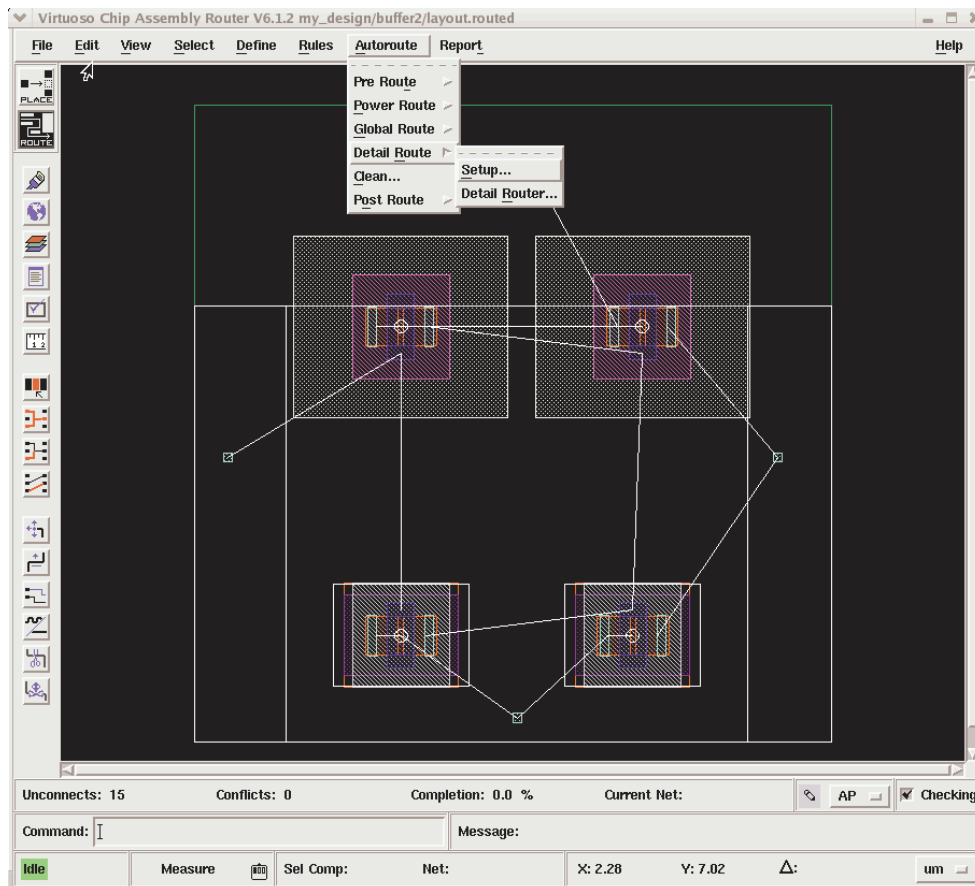

FIG. 34 Perform automatic routing
3. Click “Autoroute->Detail route->Detail router” to complete the auto routing (Fig 34).